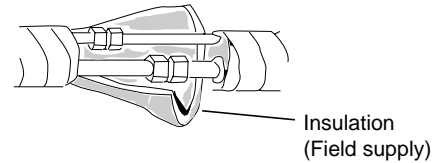

Fig. 26
- (4) Connect the refrigerant tubing to the outdoor unit. (After performing a leak test on the connecting part, insulate it with tubing insulation. (Fig. 26)) Also, refer to Section 4-3. Connecting Tubing between Indoor and Outdoor Units.